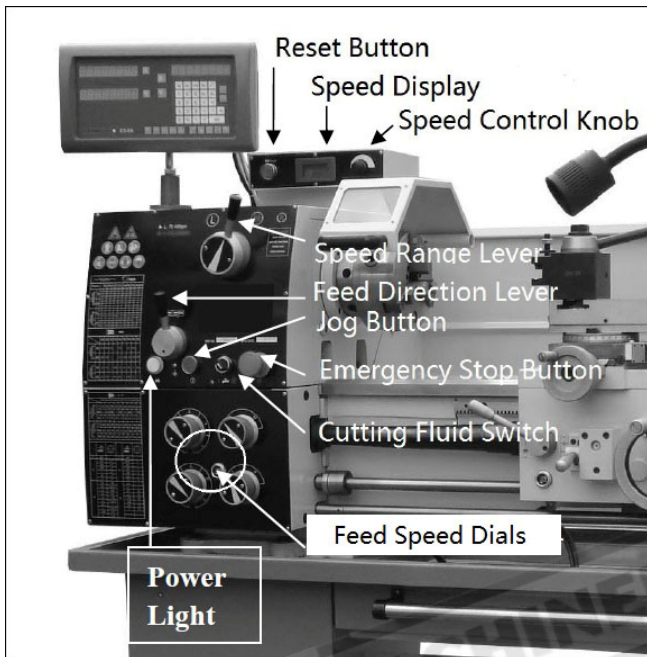

Figure 2
7. Rotate the stop button (see **Figure 2**) clockwise until it pops out..
8. Move the feed direction lever (**see Figure 2**) to the disengaged middle position.
9. Turn the spindle speed control knob (**Figure 2**) all the way counterclockwise (lowest speed) to avoid possibility of a high-speed start.
10. Move the spindle speed range lever (**Figure 2**) to the “L” position so the headstock is set in the low range (70-440RPM). You may need to slightly rotate the chuck by hand to engage the lever.
Use the descriptions in this section and the controls shown in **Figure 2** to quickly understand the functions of the headstock and quick change gearbox controls, and to find their locations on the lathe.